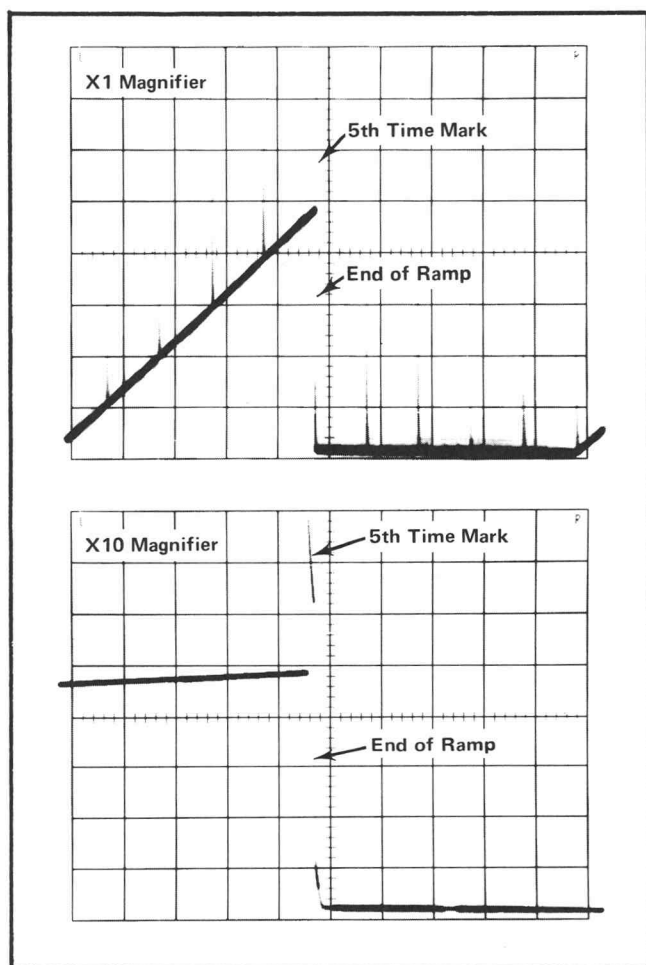

Fig. 5-2. Typical display of ramp and time marks for step 14.
- Display ramp and markers as shown in Fig. 5-2.